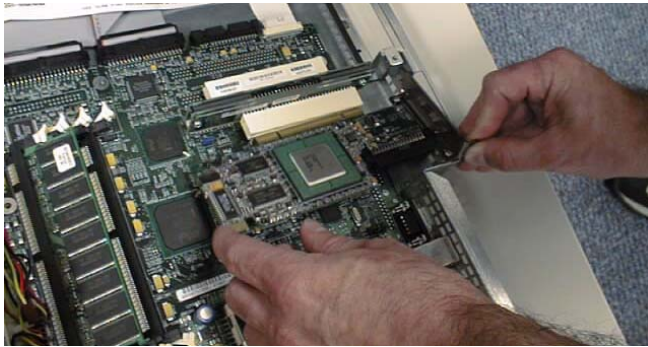

Figure 2-8. Plug the Controller into a 32-bit PCI Slot into the 2U Chassis
1. Choose the riser adapter with an available PCI slot. In this case, it is presented on an angle (Figure 2-8).
2. With the power off, plug (install) the controller board firmly into the 32-bit PCI slot, and snap it into place (Figure 2-8).